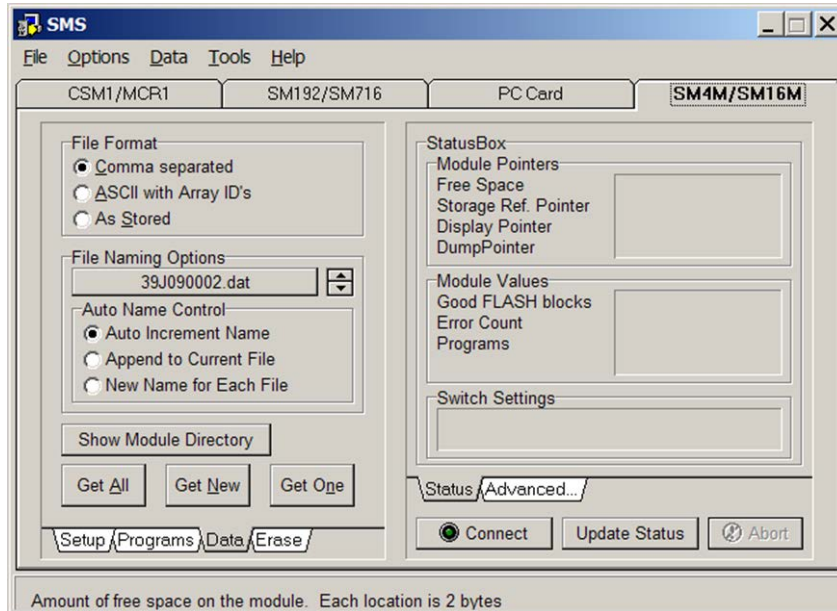

Figure 16: Preparing the SMS program Data window for connection with the SM4M Memory Module.
- 6.3.2.11 After clicking Save to close the Next Datafile Name window, select "Auto Increment Name" in the Auto Name Control window. See Figure 16.